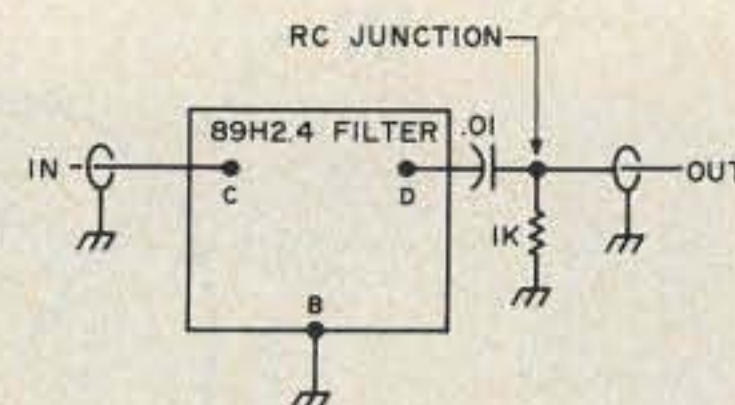
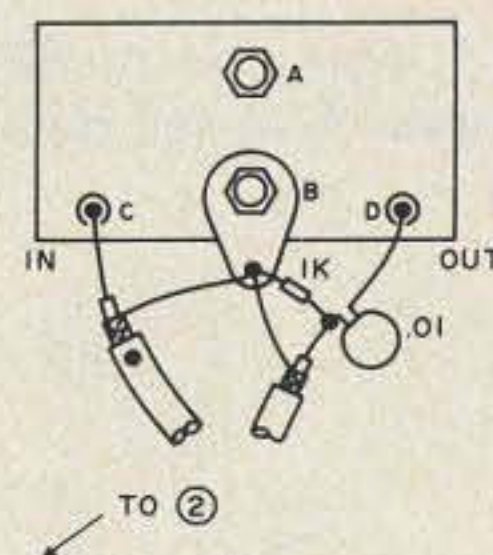

Fig. 2. Connections to new 8-pole filter YF89H2.4.
Fig. 3. Pictorial showing connections to new 8-pole filter YF89H2.4.
Harold mentioned two problems in the first part of this article which troubled me a bit: the impedance mismatch when inserting the new filter and the resulting losses. Even though neither of these had a significant effect in terms of day-to-day operations because of the inherent sensitivity of the 901, I realized that some purists might be unhappy. However, before I could even write Harold about the insertion loss problem, he solved it in a simple and ingenious way by changing the location of the output coupling 1k resistor so as to load down and slightly change the bias on the next stage, Q403. This increased its gain just enough to offset the filter insertion losses almost exactly. (See Fig. 2.)
2. Solder the capacitor and resistor between filter post D and the ground lug as shown in Fig. 3. Note that the common point forms the RC junction to which the coax will connect. See also Fig. 2.
six hold-down screws. Bring the coax with connector 4a up through the rectangular hole. Mark the IN end with paint, brush pen, etc. Do the same for the end of the 4C connector to be chosen as IN. The two must always be connected so that the IN marks match. 4B can be connected either way. The area where the connectors and cables are joined can be covered with epoxy putty to make a neater and more secure job. Try plugging 4B into 4A. Then try 4C; its leads are longer than necessary to reach the eight-pole filter. Cut them to a suitable length with a bit of slack; bare the ends and connect as shown in Fig. 3.
6. Close the cabinet by remounting the top cover and test the connectors for accessibility by removing the small access lid. Connector A makes it possible to experiment with other filters in the future without removing the top of the cabinet. Just duplicate the 4c and Fig. 3 assembly, using clips at the filter end, if desired. ■